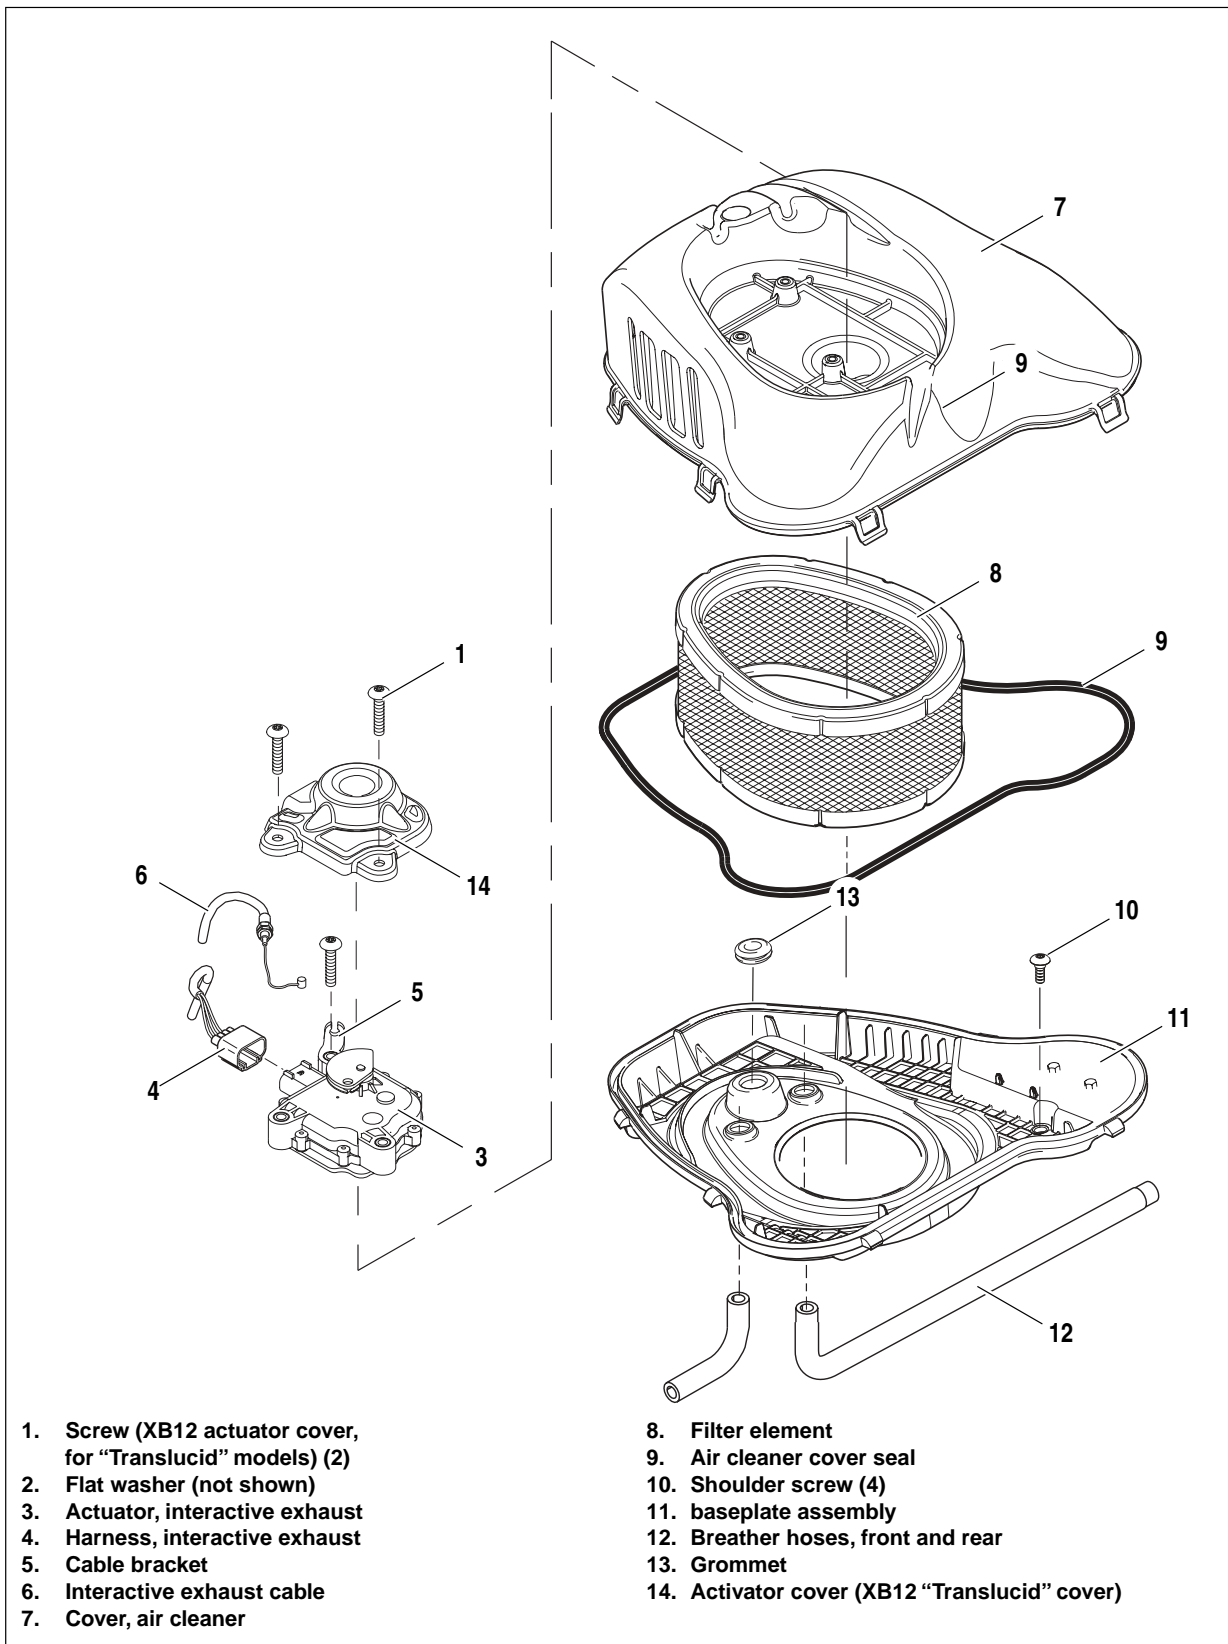

Figure 4-122. Air Cleaner Assembly (XB12 Models) with Interactive Exhaust Components
6. See Figure 4-122. Install baseplate (7) to frame with four fasteners and washers (5). Tighten fasteners to 84-120 **in-lbs** (9.5-13.6 Nm).